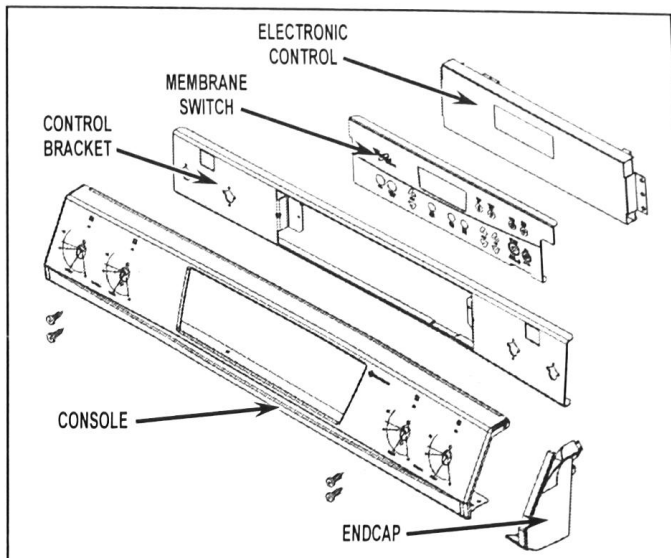

Figure 1
5. Open oven door and remove (4) screws from underside of console.
9. Remove (2) electronic control mounting screws and set control aside.
10. Remove (4) screws that secure control bracket to console. Save these screws for later.
12. Assemble new control bracket to new console reusing (4) screws from step 10. Use top and bottom screw holes at inner most gas valve openings. See Figure 1.
14. Replace electronic control on control bracket and secure with (2) screws.